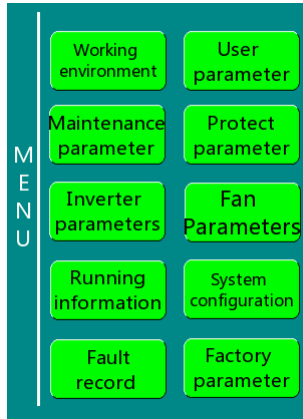

Figure 4-4 Menu interface
4. Click **Menu** on the top right corner of the user interface, and the interface is displayed, as shown in Figure 4-4.